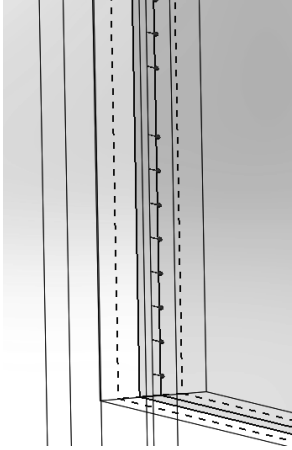
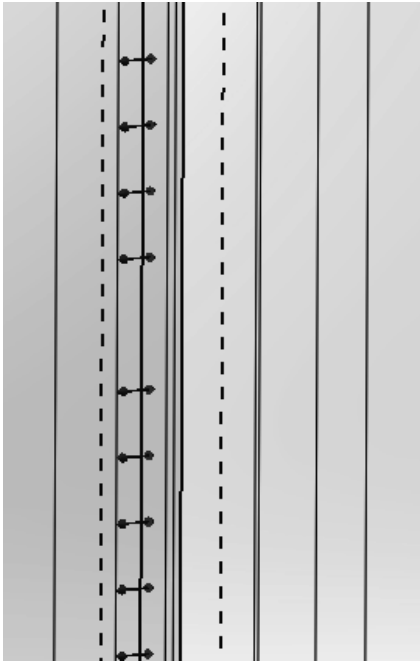

Figure 2.17d) Inlet velocity boundary condition indicated by arrows
Figure 2.18b) Outlet static pressure boundary condition
18. Red arrows pointing in the flow direction appear indicating the inlet velocity boundary condition, see figure 2.17d). Right click in the graphics window and select **Zoom to Fit**. Right click again in the graphics window and select **Rotate View** once again to rotate the part so that the inner right surface is visible in the graphics window. Right click and click on  **Select**. Right click on  **Boundary Conditions** in the **Flow Simulation analysis tree** and select **Insert Boundary Condition...** Right click on the outflow boundary surface and select **Select Other**. Select the Face corresponding to the outflow boundary. Click on the **Pressure Openings** button in the **Type** portion of the **Boundary Condition** window and select **Static Pressure**. Click OK to exit the window. If you zoom in on the outlet boundary, you will see blue arrows indicating the static pressure boundary condition, see figure 2.18b).